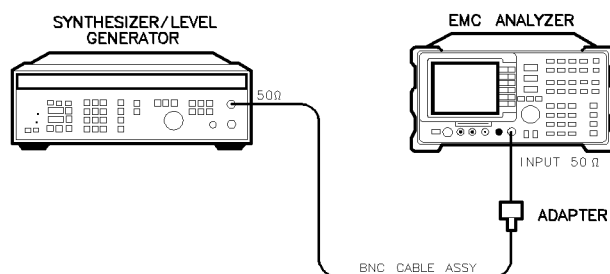

Figure 2-24. Frequency Response Test Setup, <50 MHz, HP 8591EM
18. Using a cable, connect the synthesizer/level generator directly to the INPUT 50 Ω. Refer to Figure 2-24.